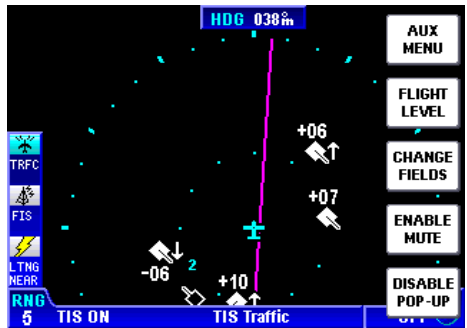

Figure 3-17
1. While viewing the Traffic Display, press the **MENU** Key to display the **ENABLE POP-UP** Softkey as shown in Figure 3-17. This Softkey toggles between **ENABLE** and **DISABLE POP-UP**.